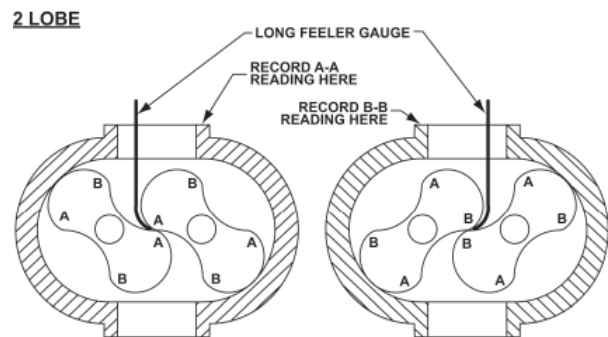

Figure 8-5 – Checking Rotor Interlobe Clearance
8. Lubricate the shafts and keys, and press the drive gear (right-hand helix) on the drive rotor. To install the driven gear, align the reference marks as shown in **Figure 8-5**. Tap the gear with a mallet to start, and then press the gear until seated.